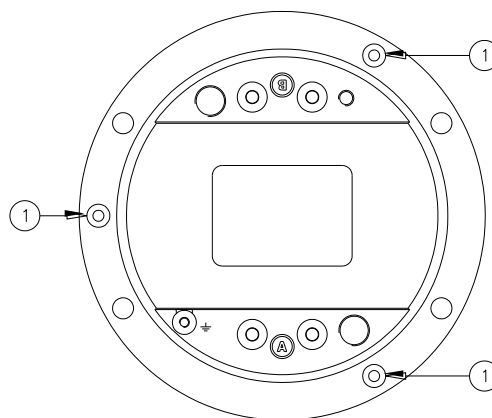

Figure 19 - Lower Cover Fixing Screws
- Open the fixture by unscrewing the three locking screws TORX SFH M5x10 (Figure 19 - n°1).
- three locking screws TORX SFH M5x10 (Figure 19 - n°1);
Verify the correct position of O-Ring between dome and lower cover (Figure 21 – n°2);, mount the lower cover on the dome and fasten it by means the three screws TORX SFH M5x10 (Figure 19 - n°1). One drop of anaerobic adhesive lower type (e.g. LOXEAL 24-18) should be applied to the screws before installation; tightening torque is 2.5 Nm.